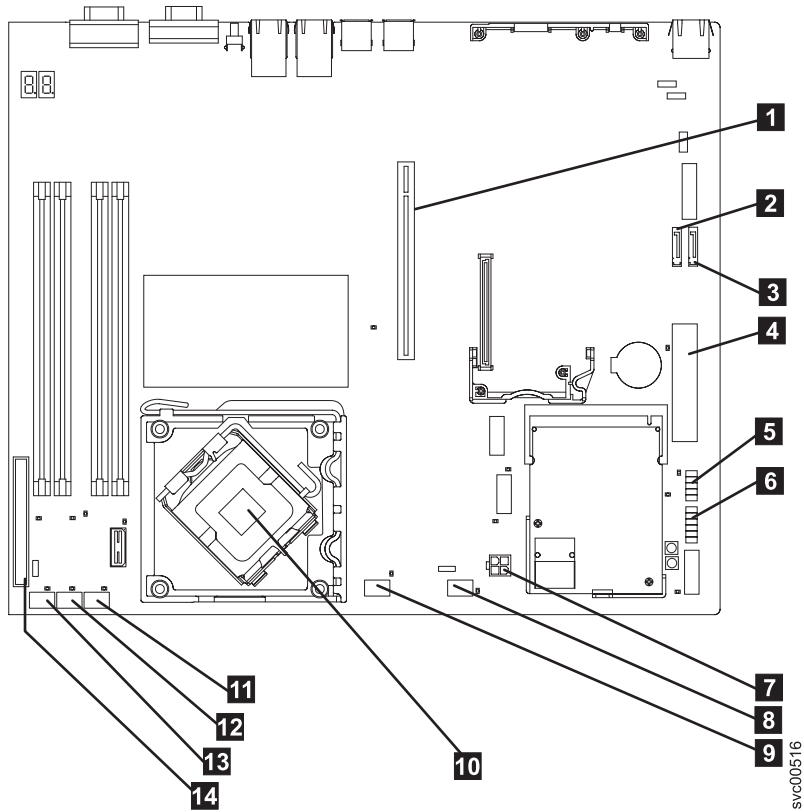

Figure 273. Connectors that are used on the SAN Volume Controller 2145-8A4 system board
7. Mark the cables to ensure that you know where each one goes. Figure 273 on page 273 shows the connectors on the SAN Volume Controller 2145-8A4 system board.